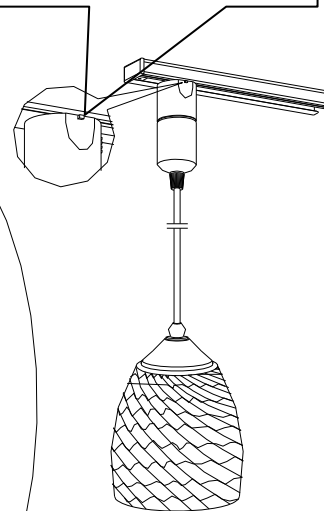

Fig.3
1. **IMPORTANT:** Determine ground side of track (has indented groove on face and two internal copper bars) and connector (side of connector with two metal tabs) It can only be installed if grounds are aligned. (See Figure 3)